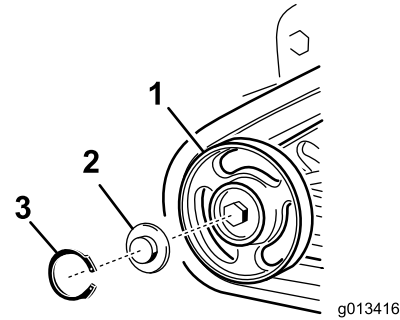

Figure 57
4. Remove the snap ring and cap from a road wheel (Figure 57).
5. Check the grease under the cap and around the gasket (Figure 57). If it is dirty, gritty, or depleted, clean out all of the grease, replace the gasket, and add new grease.
7. Place the greased road wheel cap over the bolt head (Figure 57).
8. Secure the road wheel cap with the snap ring (Figure 57).